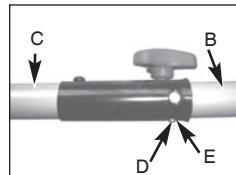

Fig. 2B
2. While firmly holding the attachment (B), push it straight into the Quick-Change coupler (C) until the release button (D) appears in the primary hole (E) of the Quick-Change coupler. (Fig. 2B)